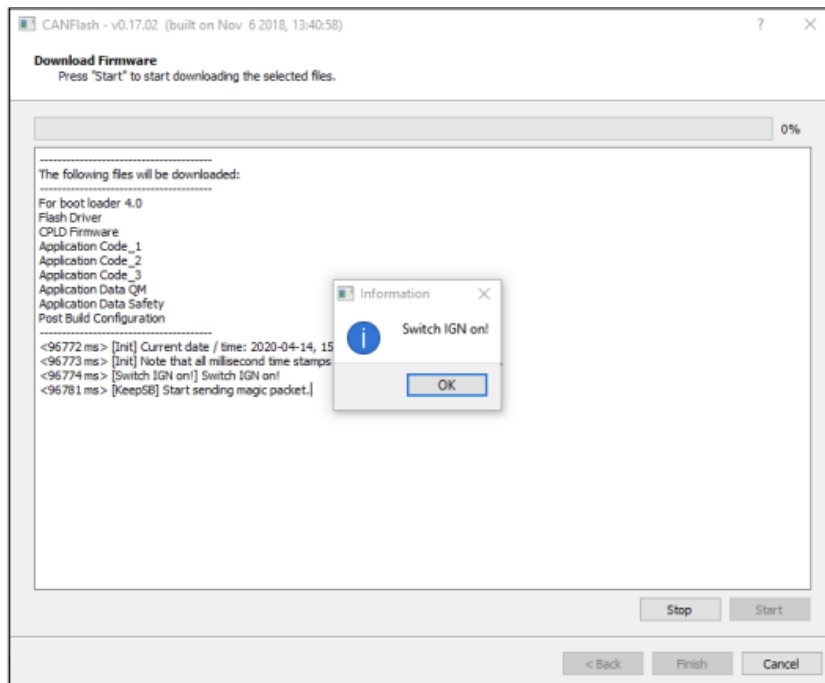

Figure 10: Flip switch on 1144289 when CANFlash shows Switch IGN on!
29. Flip the ignition switch on 1144289 ON when CANFlash says Switch IGN on! (see figure 10). In part 1 you do not need to turn the Master Run switch ON.